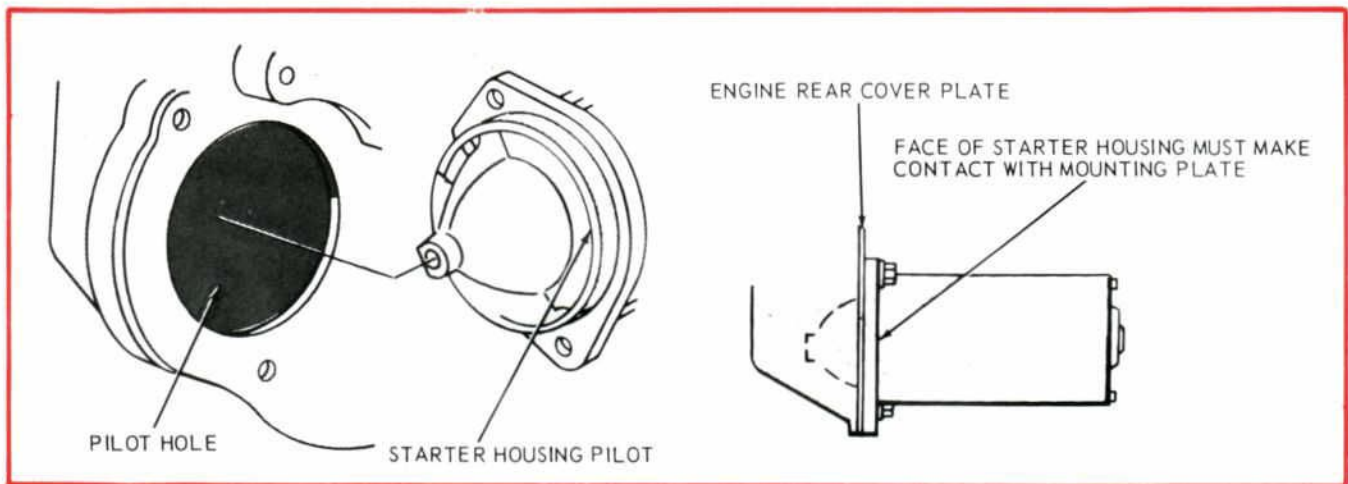

Figure 14—Starter Installation
1. Insert the starter into pilot hole, making sure that the starter housing pilot completely enters the pilot hole for a full 360°. Also, be sure that the starter housing face is square and tight to the engine rear cover plate (figure 14).